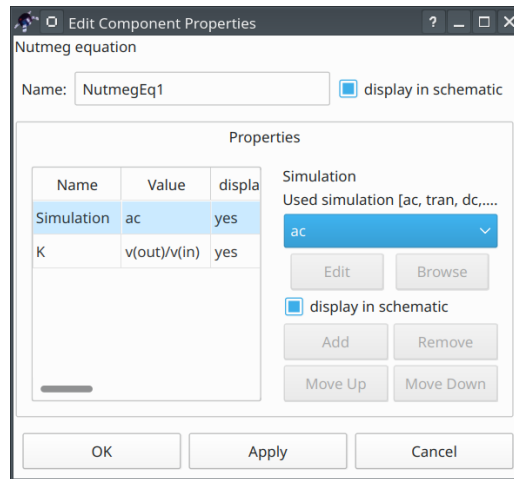

Figure 7: Equation setup dialog
- **Step 4:** Place equation for the magnitude response  $K = V_{out}/V_{in}$  on the schematic. Equation is the special component called *Nutmeg equation* that could be found in the *spice specific sections* category. The full SPICE syntax for mathematical functions and node names is supported. Refer to Ngspice manual for more details. The simulation should be specified for each Nutmeg equation. We will calculate the magnitude response for the AC simulation only and therefore we need to enter `ac` as the first property for this device as shown on the Fig. 7.